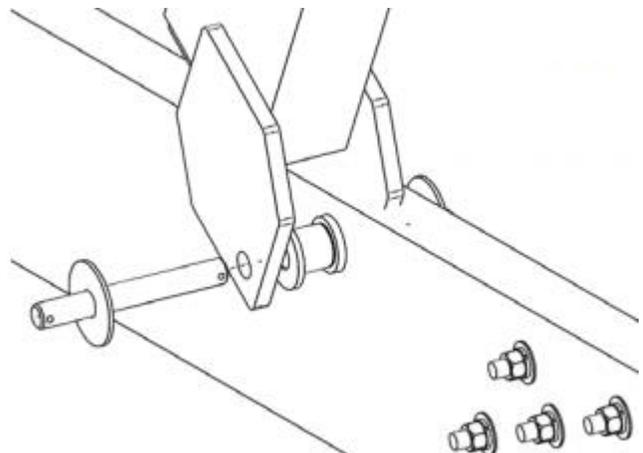

Figure 8
1. Align the mounting holes on the Stern Side H-Frame hinge plate with the Hinge Bushings located on the Side Beam as shown in Figure 8.
2. Insert one (1) 1/8" Cotter Pin into one (1) 1" Hinge Pin, bending the tines of the Cotter Pin outward and apart, securing the Cotter Pin within the Hinge Pin.
4. Slide the Hinge Pin through the hinge plate as shown in Figure 8.
5. Insert one (1) Lollipop Washer and one (1) 1/8" Cotter Pin into the protruding end of the Hinge Pin, bending the tines of the Cotter Pin outward and apart, securing the Cotter Pin within the Hinge Pin.